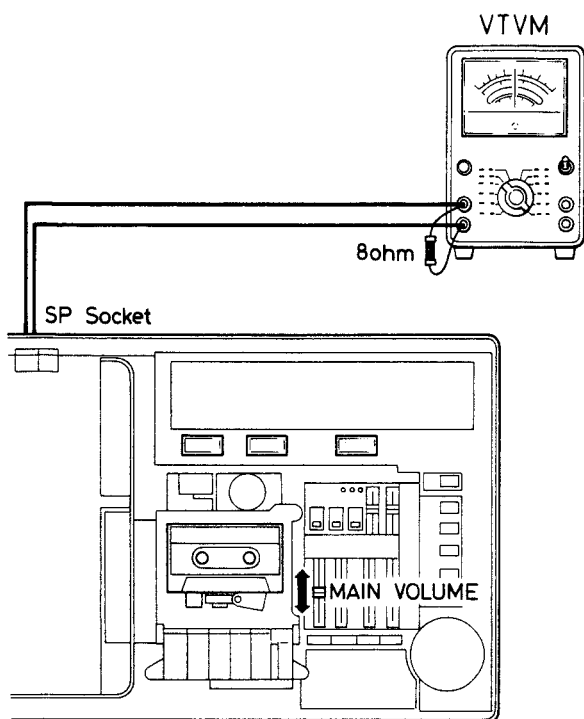

Fig. 17
5. Set the MAIN VOLUME to 500mW (speaker output of 2V). (Fig. 17)